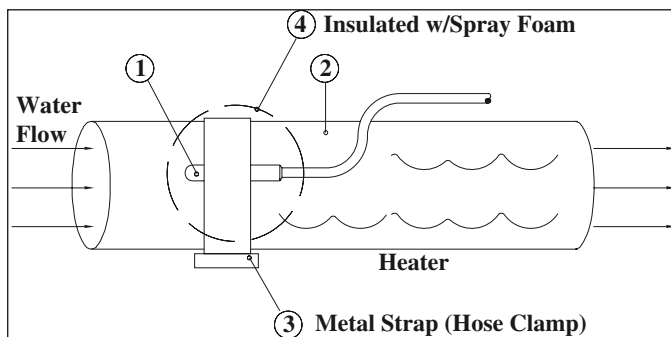

Figure 4: Plastic tee mounting
4. See Figure 4, Plastic tee mounting. Insert the high-limit/freeze sensor (#2) into the fitting (#3) until the cable end of the sensor is flush with the domed sealing nut (#1).